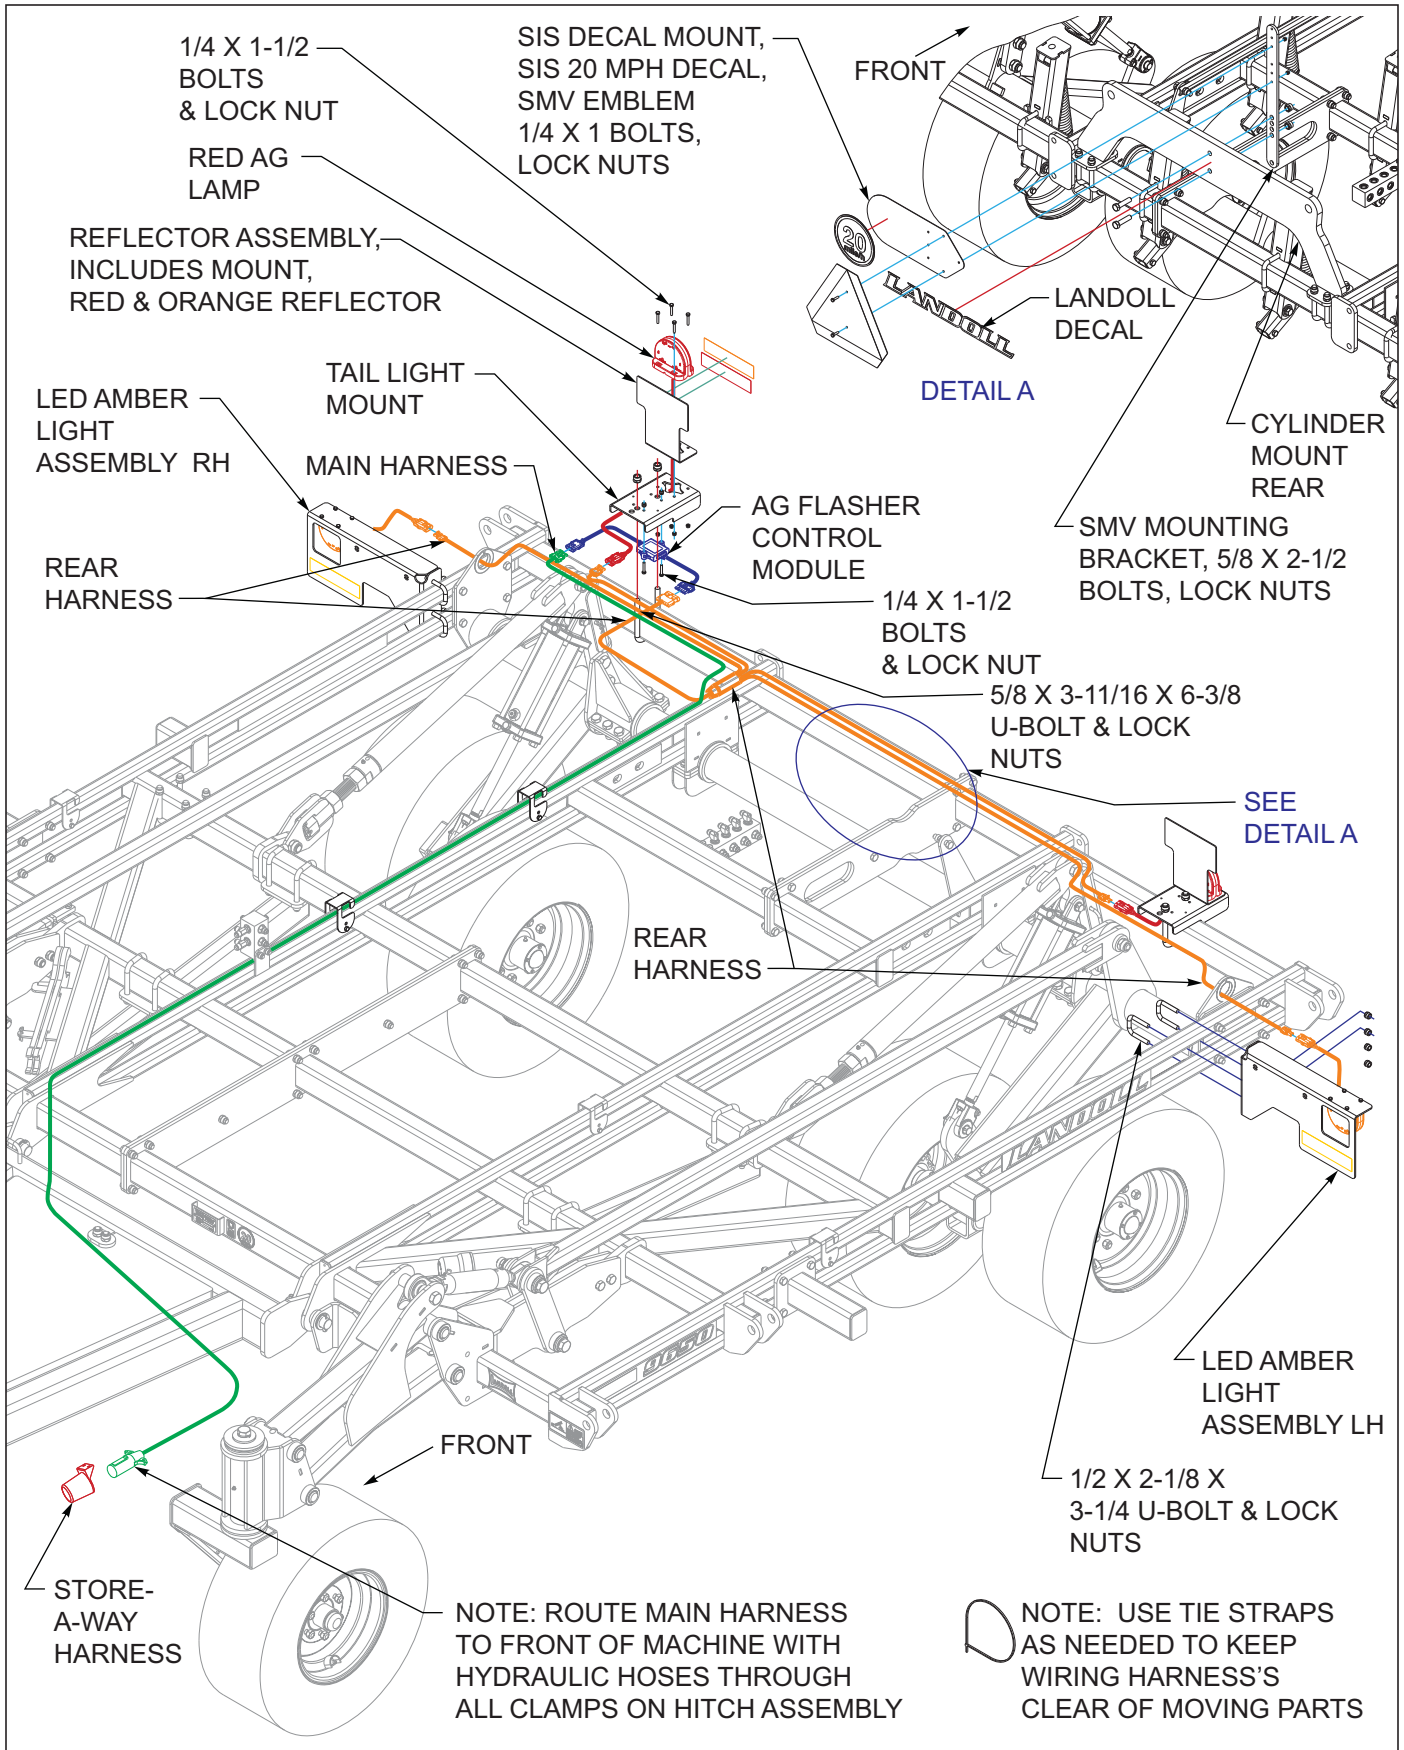
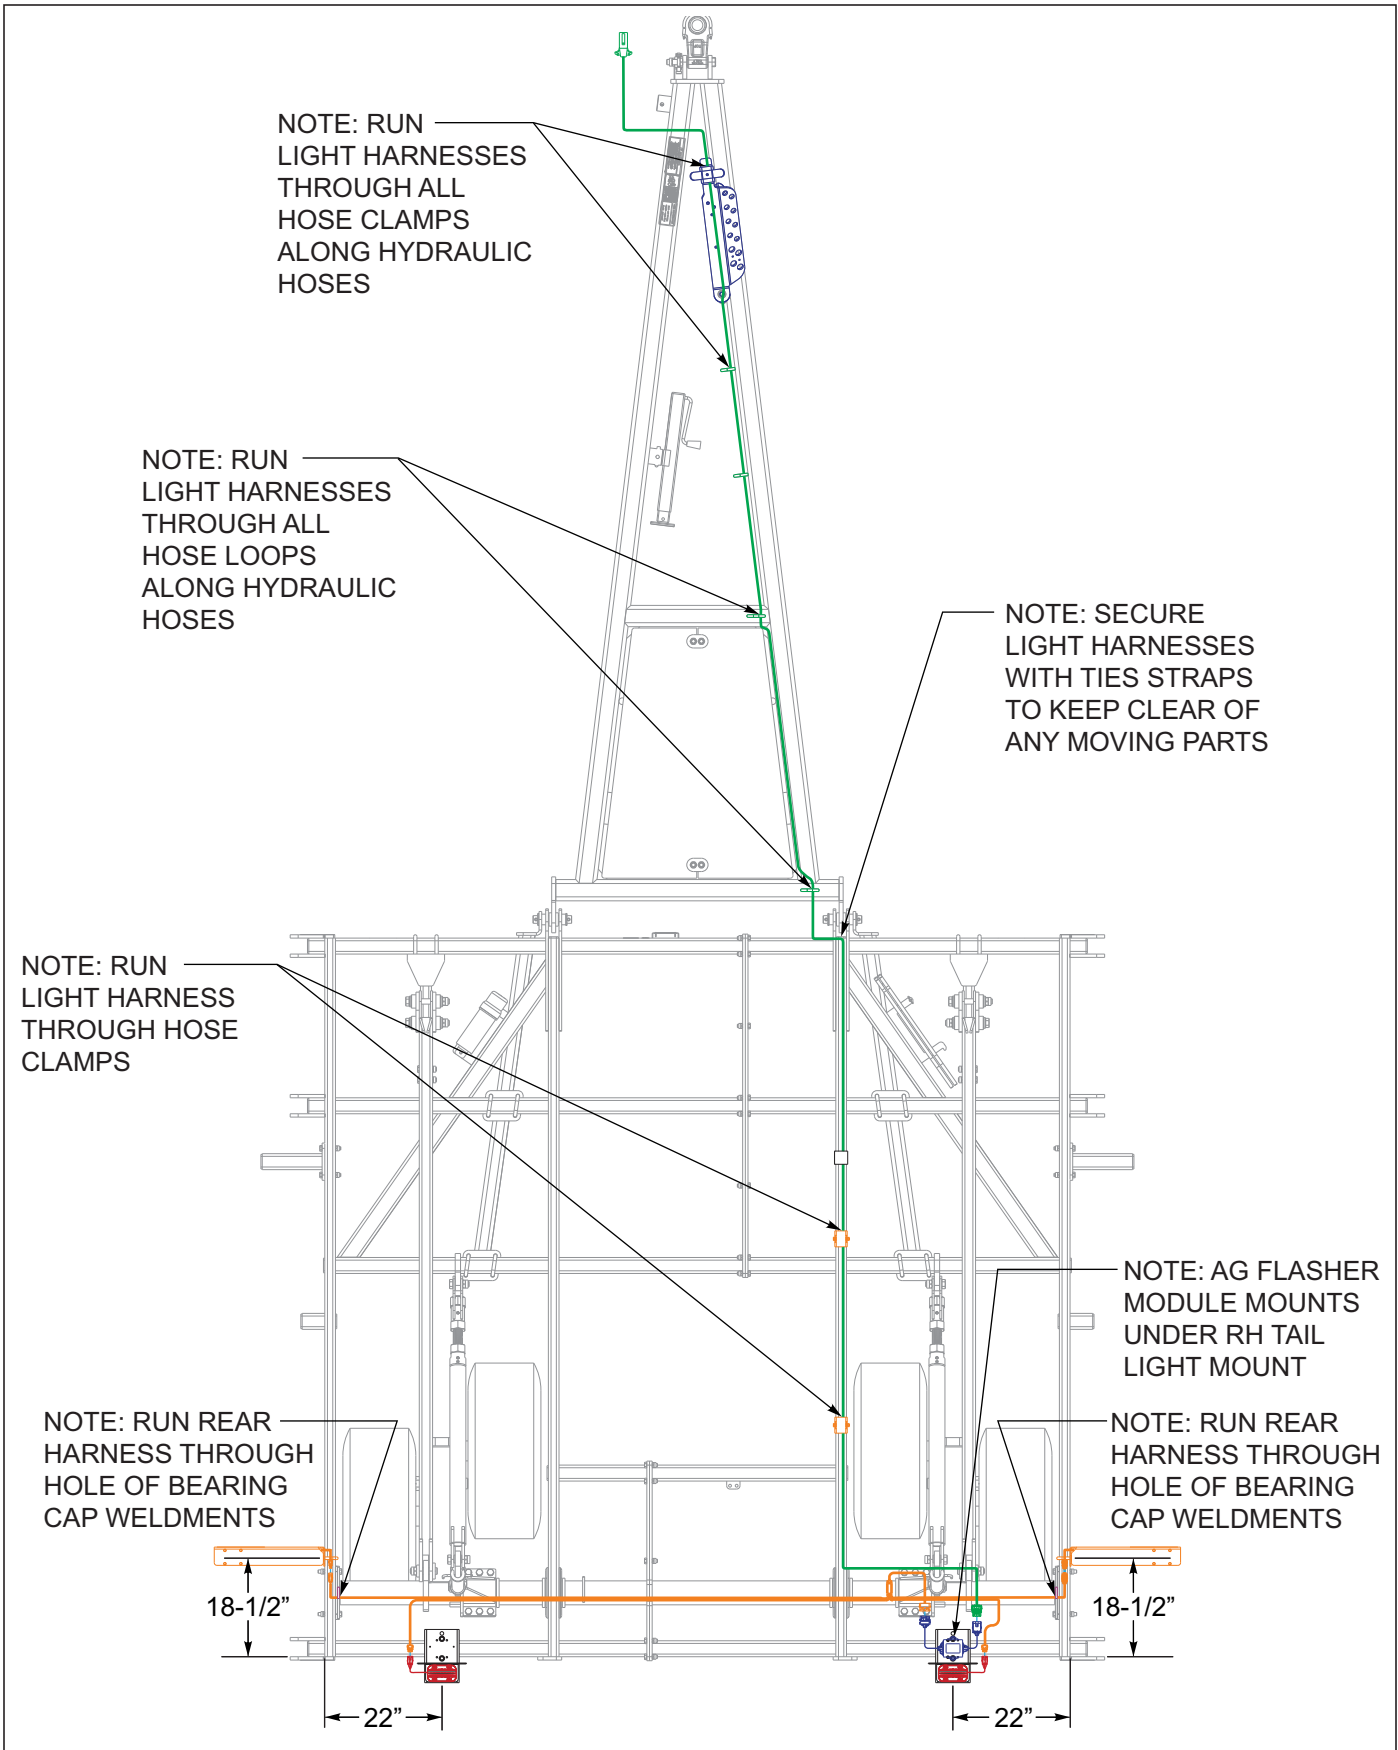

Figure 3-26: LED Light Installation
Figure 3-27: LED Light Layout
1. Attach LH and RH light bracket assemblies to center frame using 1/2 x 2-1/8 x 3-1/4 u-bolt and lock nuts **See Figures 3-26** and **See Figures 3-27** for light bracket placement location.
9. Insure that the harnesses are clear of any moving parts and secure the harnesses with tie straps provided. **See Figures 3-27** for light harness routing.
11. Attach the smv mounting bracket to front side cylinder mount rear with 5/8 x 2-1/2 bolts and 5/8 lock nuts **See Figures 3-26** Detail A.